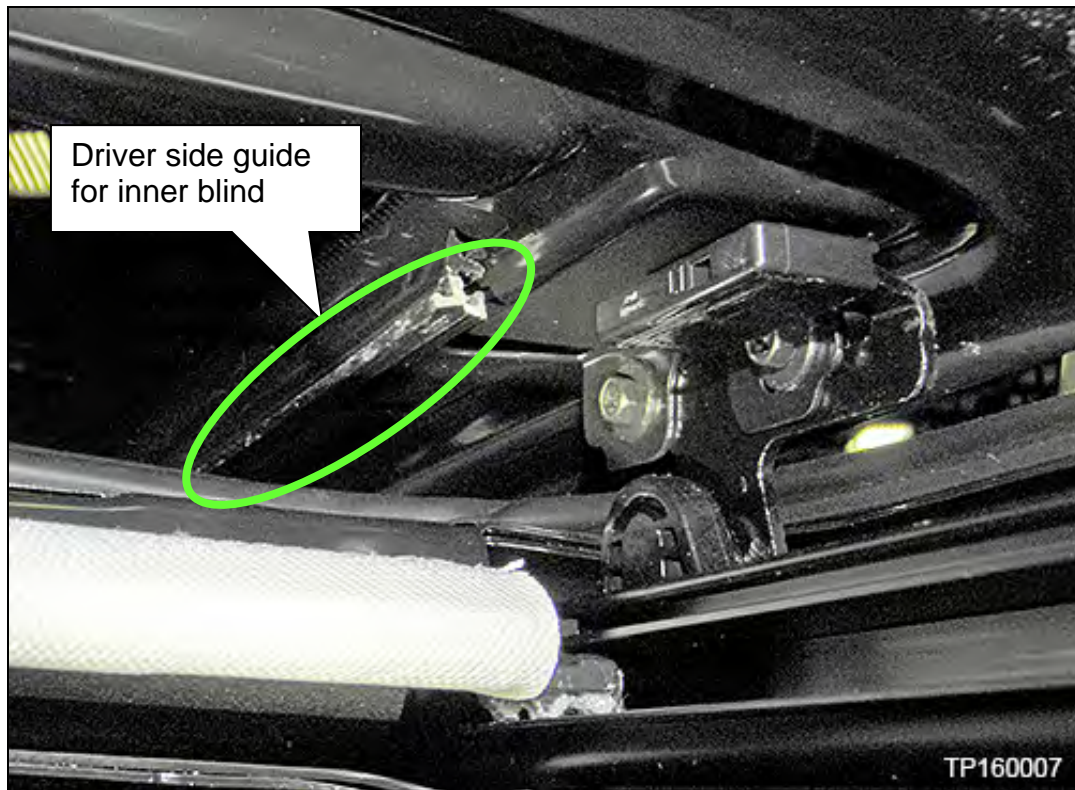

Figure 24
- a. Slide the top of the left and right inner blinds onto their guides (Figure 24).